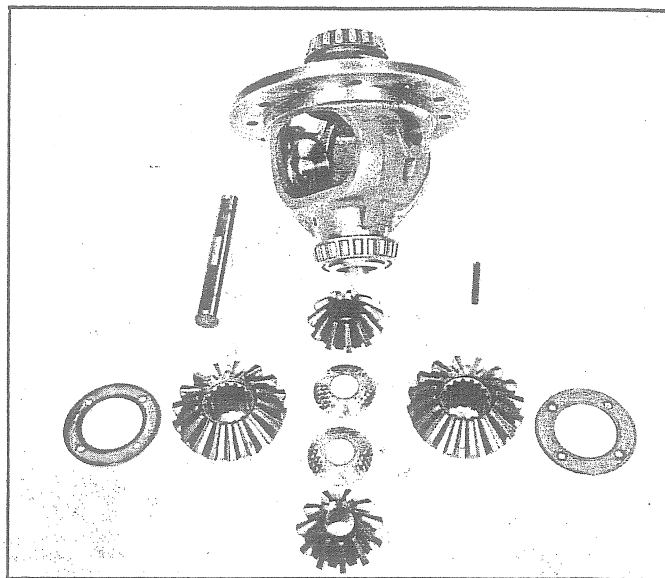

Fig. 112 - Differential (Disassembled)
15. Remove side gears and their thrust washers from case. See Fig. 112. If differential carrier bearings require replacement, remove them from the case using a suitable puller.